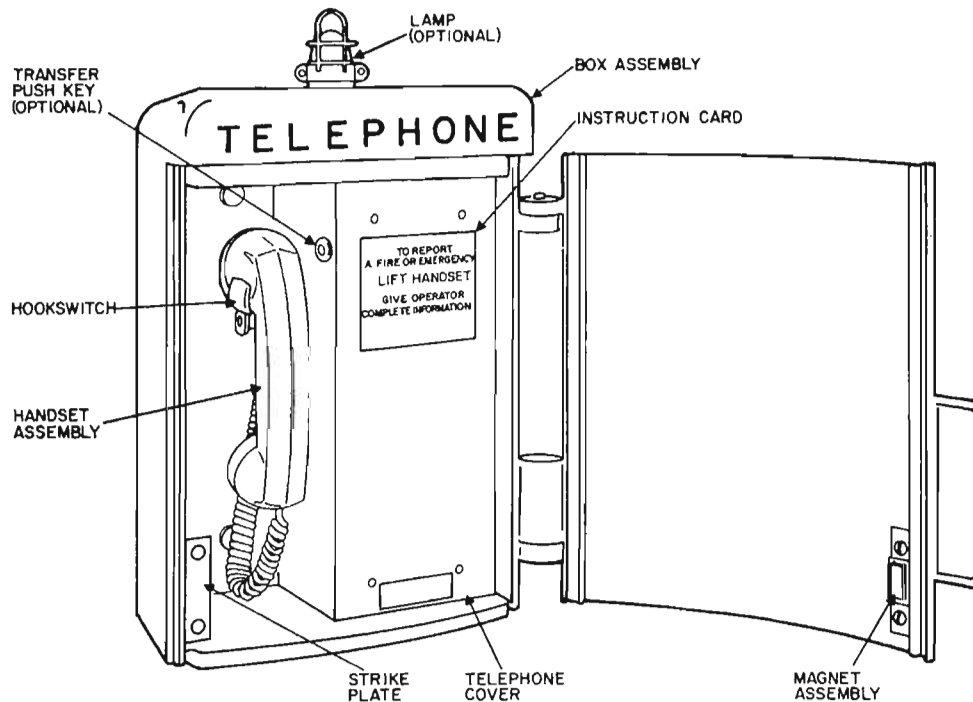

Figure 1. Emergency Telephone (Door Open).
2.01 The emergency telephone (Figure 1) consists of a weatherproof cast aluminum housing and, components of a nondial common battery telephone. A telephone handset and cord, a baseplate containing a hookswitch, and a transmission unit are the components that make up the emergency telephone. The housing is equipped with a hinged door at the front that is held in the closed position by a magnetic catch. Holes for mounting the telephone components and the housing are located on the back of the housing. The housing measures 12-5/8 inches wide, 16 1/2 inches high, and 6-5/32 inches deep, and is finished in the following color schemes: